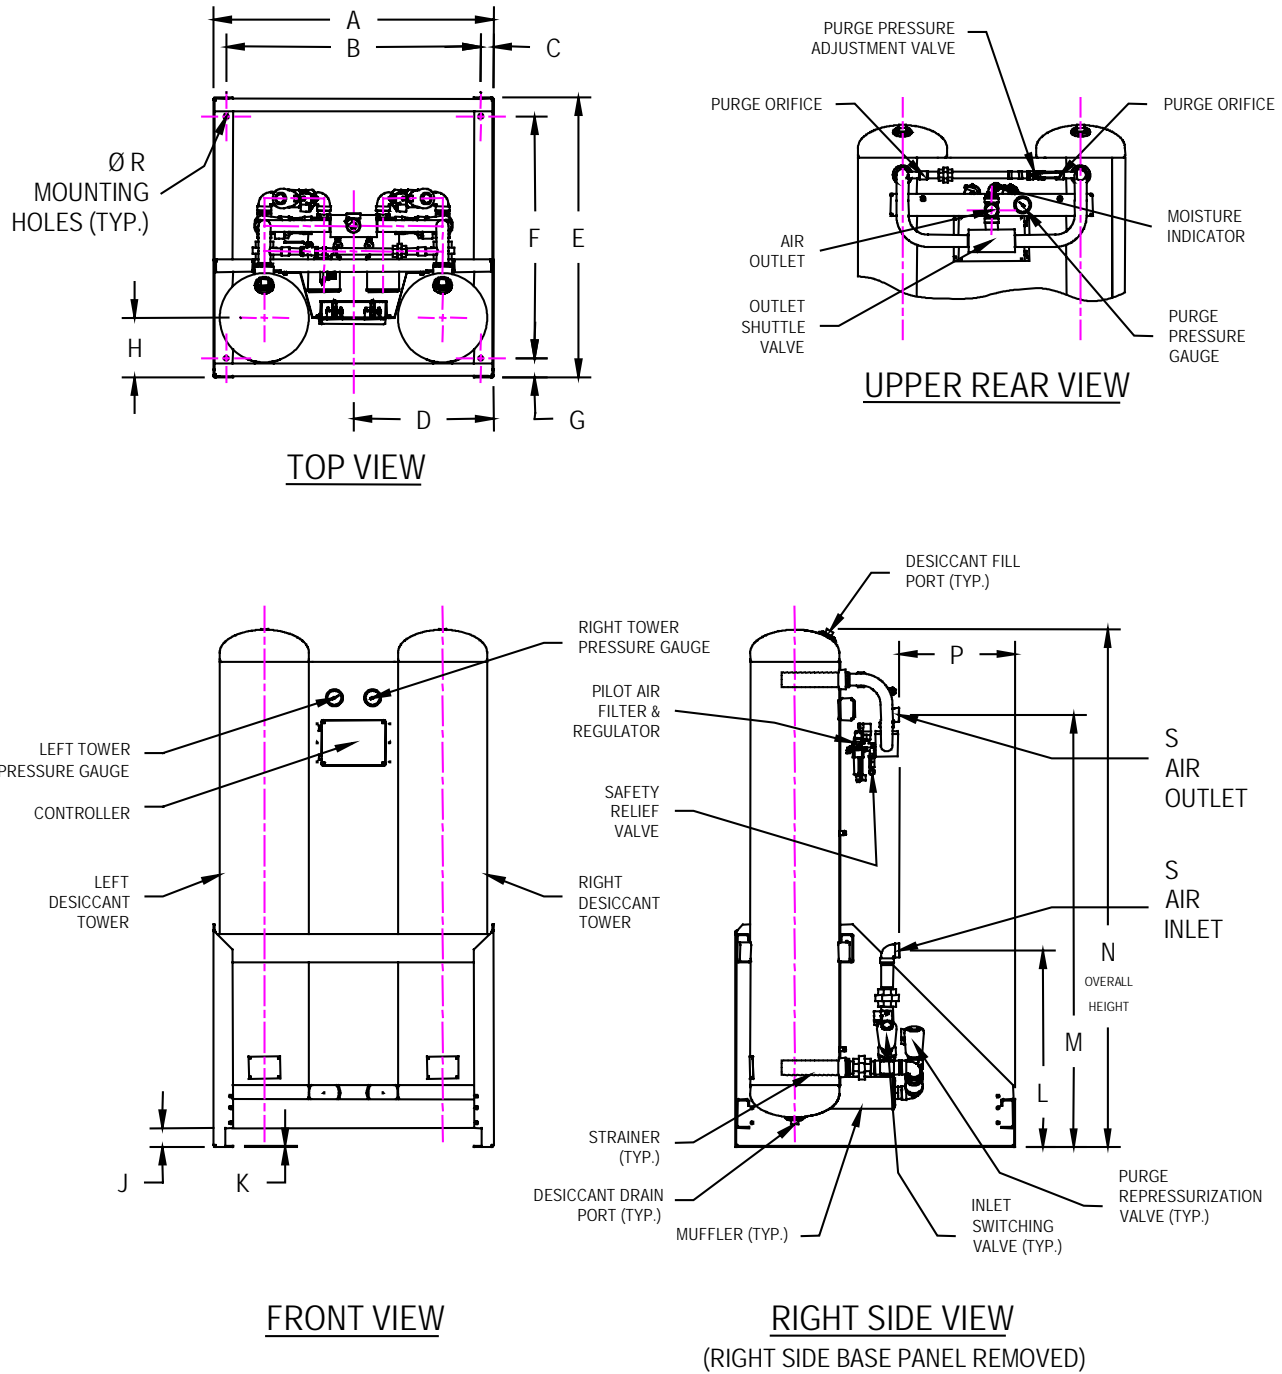

Figure 4-2
Observe locations of inlet and outlet connections as shown in *Figures 4-2 or 4-3* and connect inlet and outlet piping as indicated.
- Purge mufflers - If shipped separately, install purge exhaust mufflers in the locations shown in *Figures 4-2 or 4-3*.